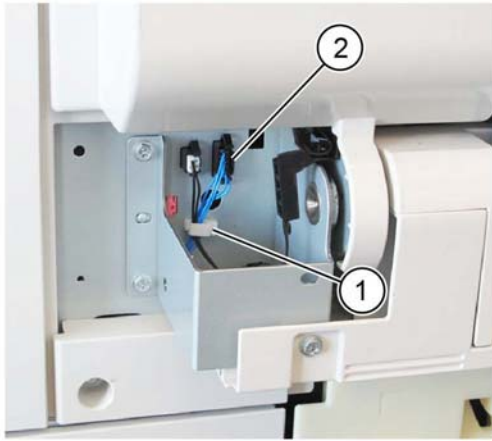

Figure 2 Harness release
2. Disconnect the connector, **Figure 2:**
- a. Release the harness from the clamp (1).
- b. Disconnect the connector (2).